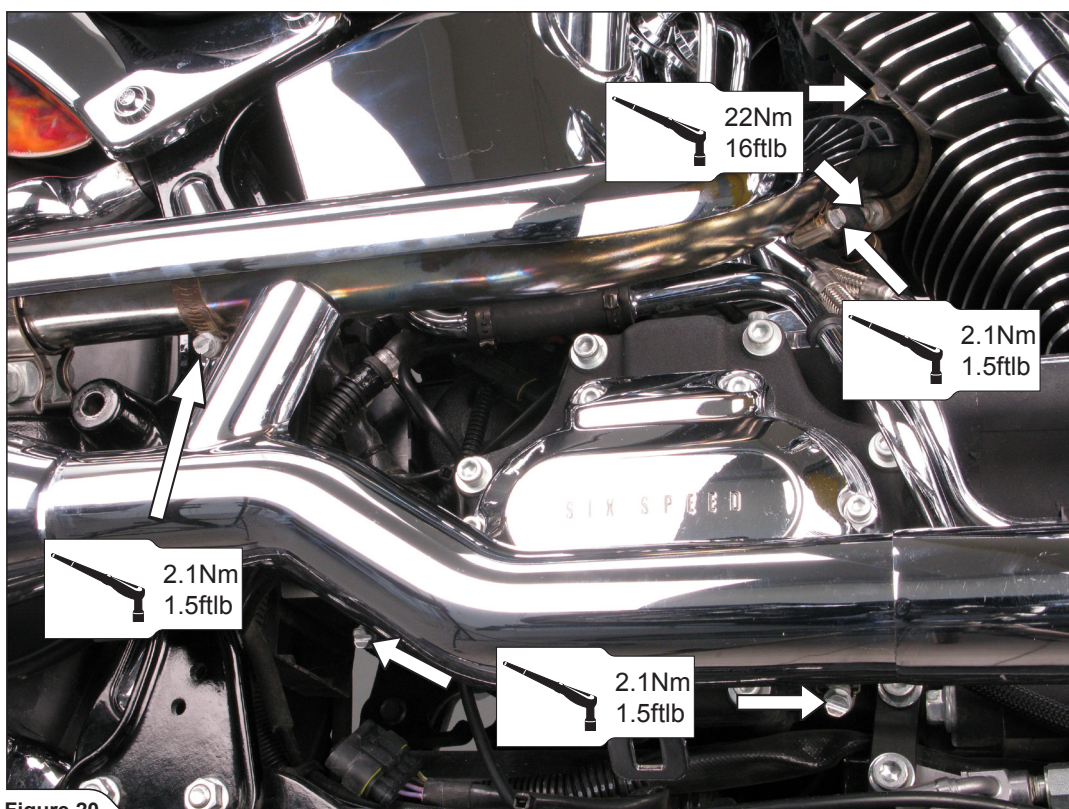

Figure 20
8. Align the original heat shield and tighten the marked tape clamps to a specified torque. Assemble the front header's bracket and tighten both headers' nuts to the specified torque (Figure 20).